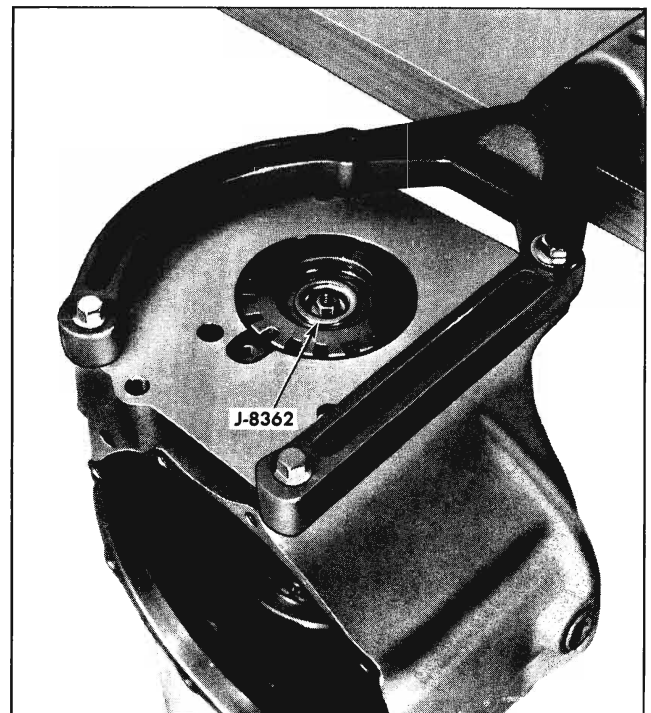
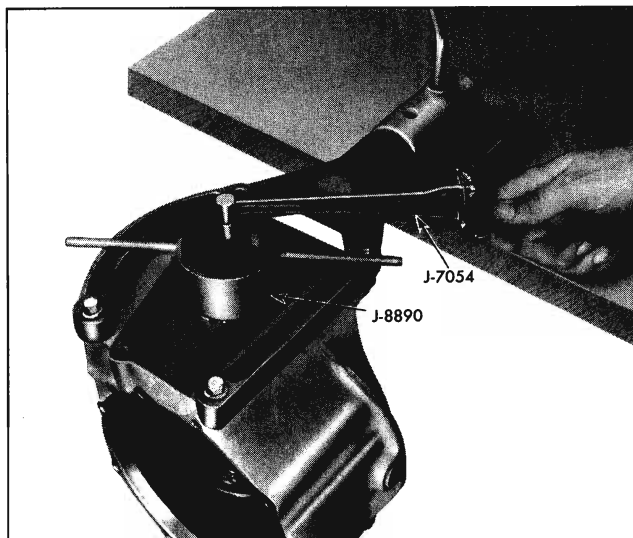

Fig. 4-59 J-8362 Installed in Pinion Shaft
Fig. 4-60 Adjusting Pinion Bearing Preload
18. Install J-8362 inside pinion shaft and tighten nut (Fig. 4-59). Adjust pinion bearing preload to 10-16 lb. in. of torque (Fig. 4-60).